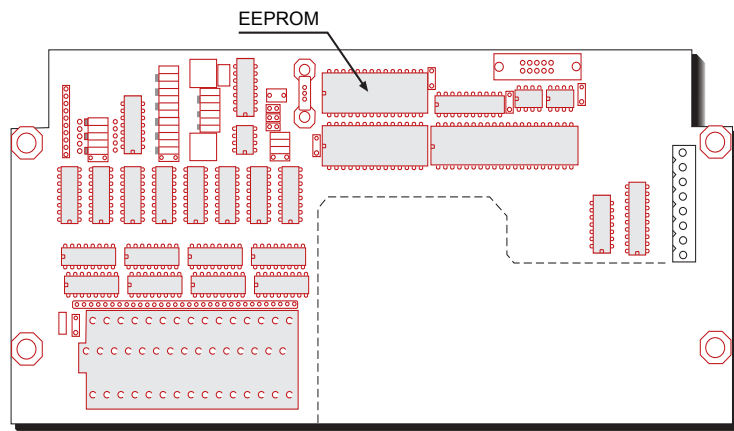

Figure 4-31. Database loader
- 2 Remove the program EEPROM from the socket, see Figure 4-31.